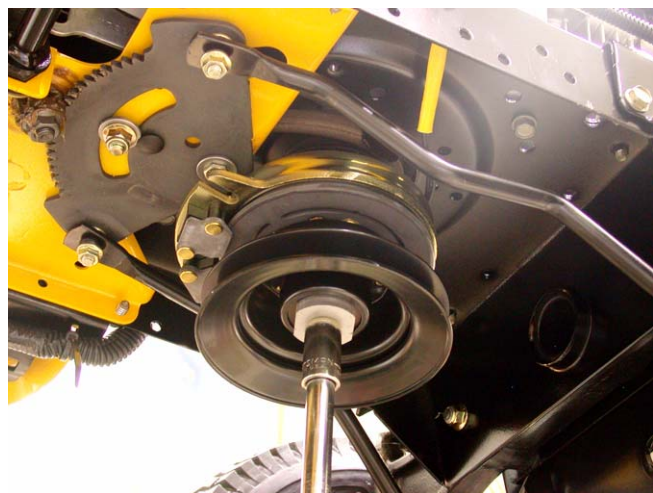

Figure 17.12
- 17.12. Remove the bolt that holds the PTO clutch to the crankshaft using a 5/8" wrench. See Figure 17.12.